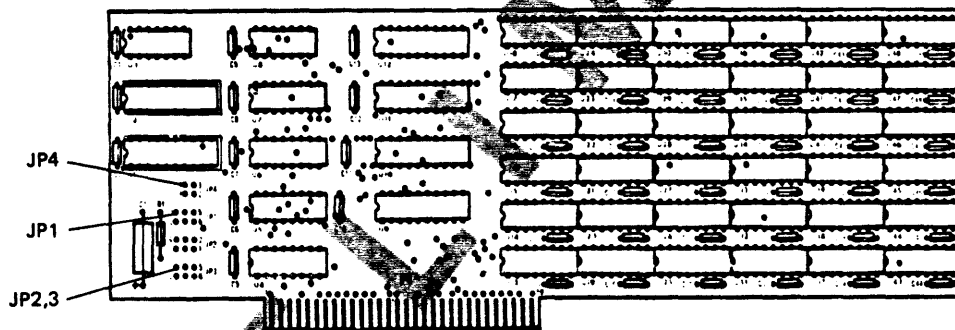
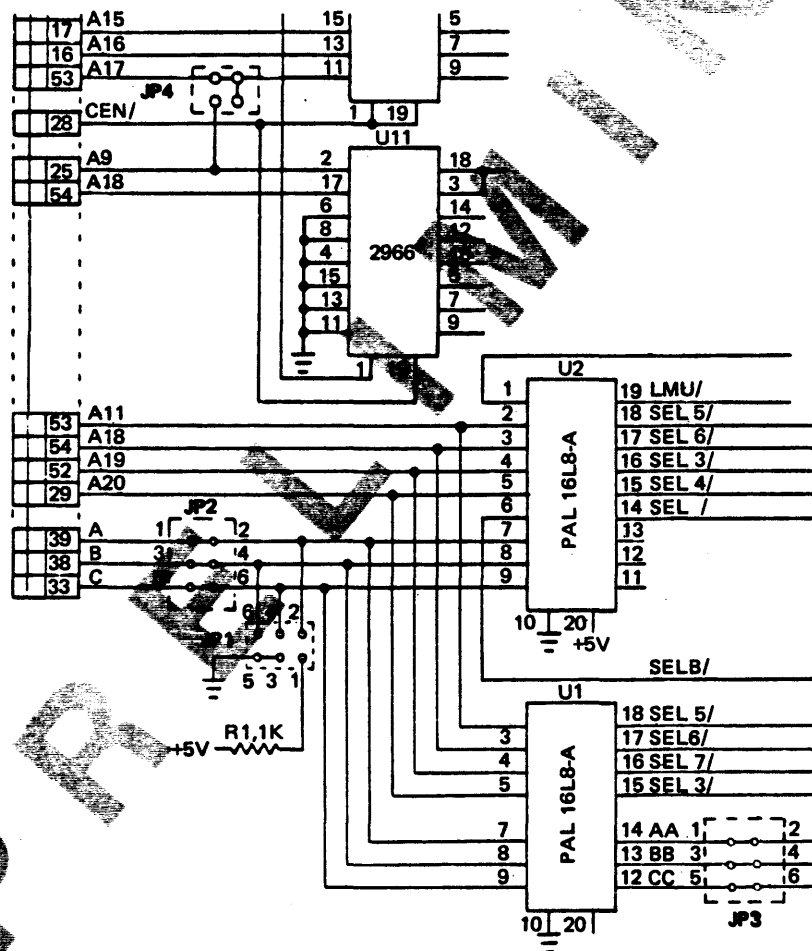

Figure 6-5. 1MB Memory Board
Figure 6-6. LMB Board, Cuts/Jumpers
Figure 6-5 is a layout of the 1MB memory board showing the maximum (36) memory chips, each containing 256K bits. The dash number for each board that is available for ZEBRA 1700/1750 and for the earlier ZEBRA 700/750 models are summarized in Table 6-3. This table also calls out the required cuts for JP2, 3, 4, and required jumpers for JP1. Figure 6-6 illustrates the cut and jumper locations.